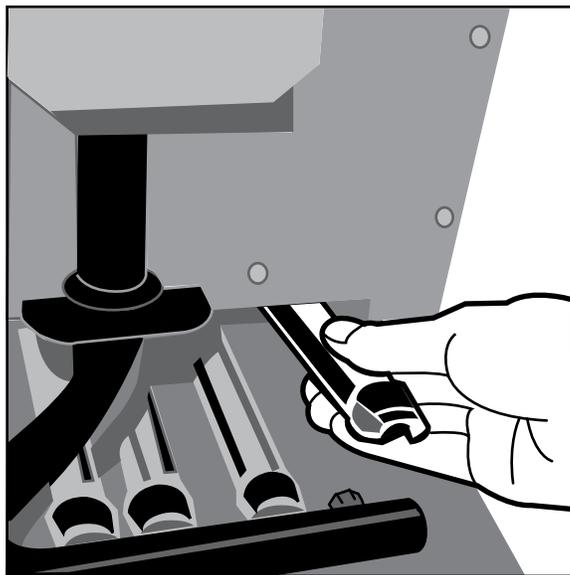

Figure AM- 1
- (1) Remove jacket front panel.
- (2) Disconnect pilot tubing at gas valve.
- (3) Disconnect pilot lead wires at gas valve.
- (4) Remove wires from flame roll-out switch.
- (5) Remove burner access panel.
- (6) Mark location of the pilot main burner on the manifold if the marking on manifold is missing or obliterated.
(7) Hold burner at throat. Lift front of burner to clear orifice (Figure AM-1). The burner that holds the pilot can only be removed by first lifting the burner adjacent to its right.